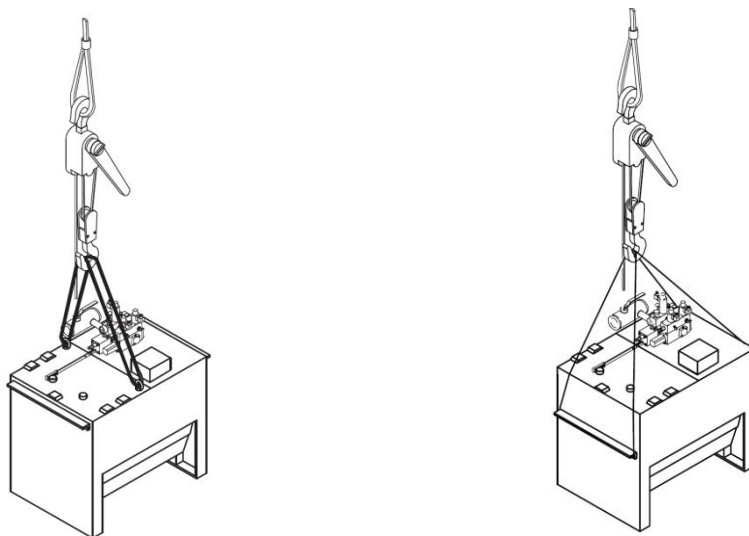

Figure 2 – Pump unit lifting with ropes
Load and unload the pump units using clamp trucks. If the pump unit has to be lifted with ropes, make them pass under the handles (see Figure 2 and Tab.3)WEIGHTS OF THE PUMP UNITS
- The tank is equipped with handholds to be displaced manually and to be lifted with an hoist (see Figure 2).